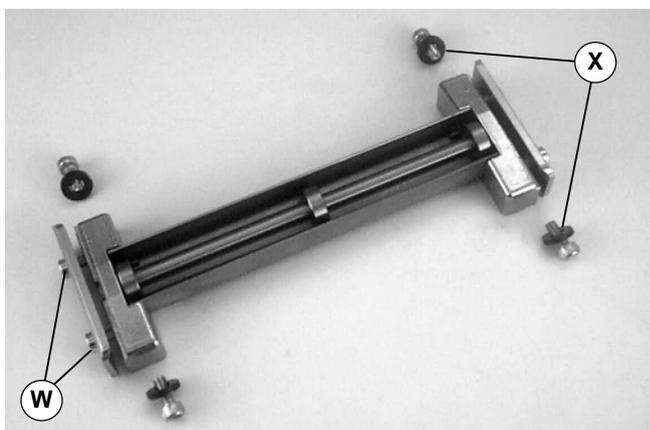

Figure 15
2. Loosen screws (W of Figure 15) and remove screws and washers (X).